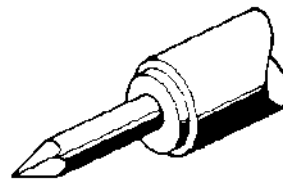

Figure 12-14 Correct Shape for Soldering Iron Tip
10. For good soldering, it is important to select a soldering iron of the proper size and heat capacity. For soldering coaxial cable to RF connectors, use an iron with a heating element rated at 65 to 100 watts, and a tip of about 0.25 inch (6.3mm) in diameter. The soldering tip should be shaped as shown in Figure 12-14. Maintain this shape by dressing the tip with a mill smooth file. Make sure the soldering iron is clean, smooth, and well tinned. See Section 2, Chapter 7 for detailed instructions on care and maintenance of the soldering iron.